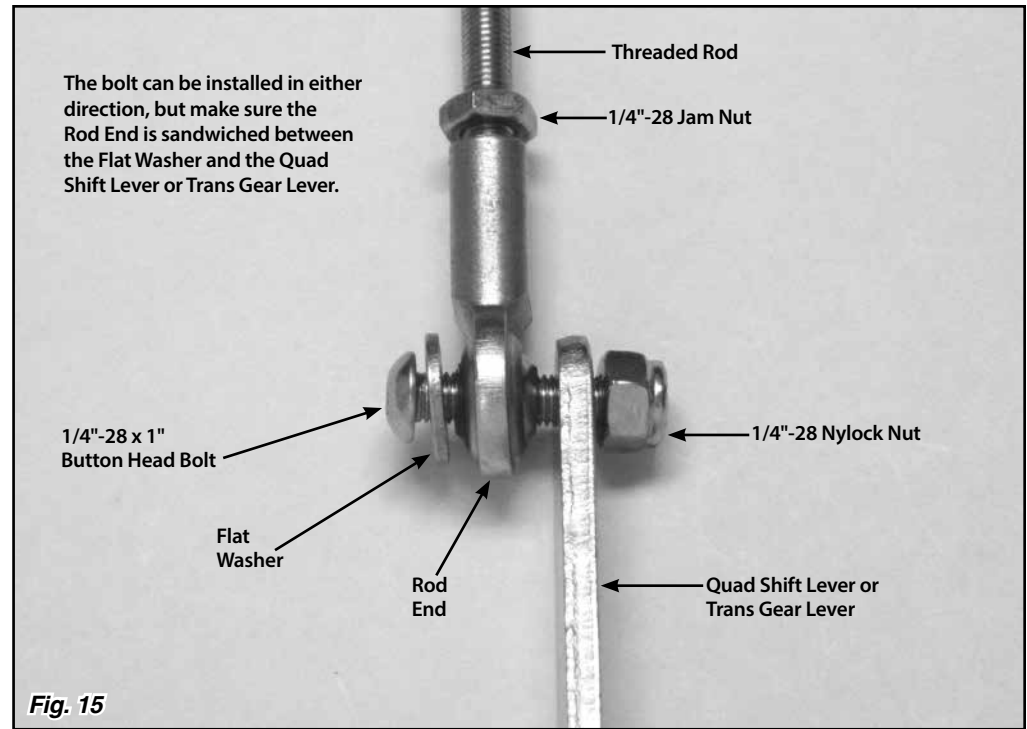
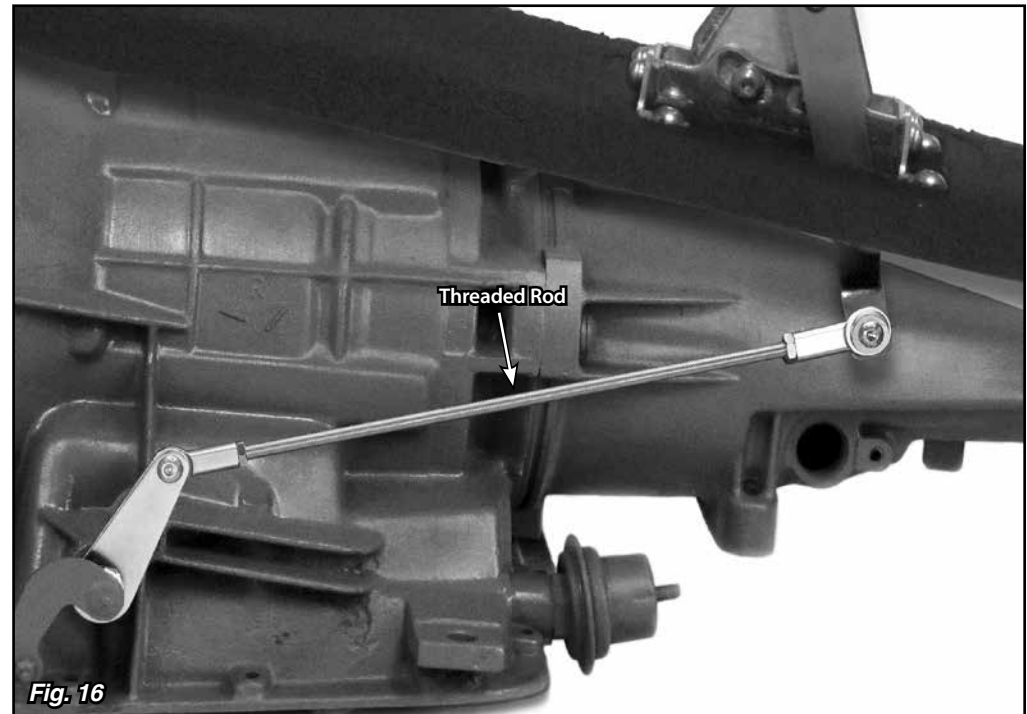

Fig. 15
Fig. 16
**Step 20:** Make sure that two 1/4"-28 jam nuts are installed on the threaded rod, one at each end. Install a rod end onto each end of the threaded rod. Position the rod ends on the inside or outside of the quad shift lever and trans gear lever so that the threaded rod is as straight as possible. Attach the threaded rod assembly to the quad shift lever and trans gear lever using the 1/4"-28 x 1" button head bolts, flat washers, and nylock nuts as shown in Fig. 15. The button head bolts can be installed from either direction, but make sure the rod ends are sandwiched between the flat washers and the quad shift lever or trans gear lever. Fig. 16